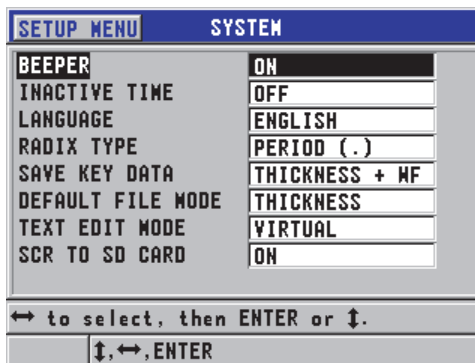

Figure 8-2 The **SYSTEM** screen
- In the measurement screen, press **[SETUP]**, and then select **SYSTEM**. The **SYSTEM** screen appears (see Figure 8-2 on page 144).